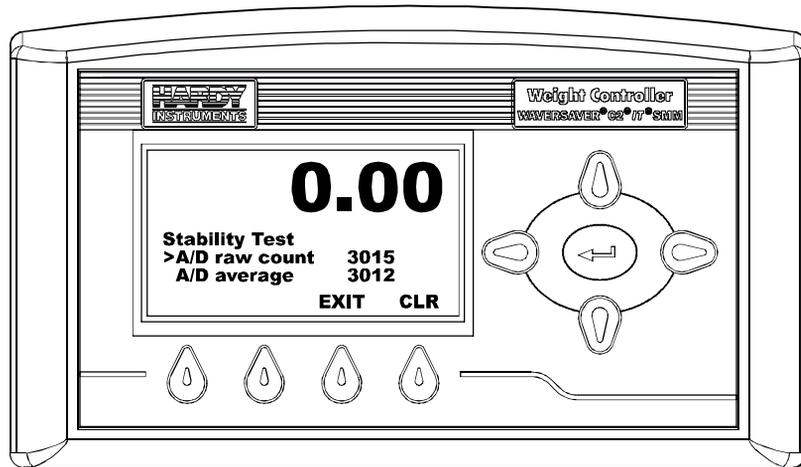

FIG. 396 STABILITY TEST/READING A/S RAW COUNT & AVERAGE
Step 12. To see the AD/Raw Count and the A/D Average press the down arrow button until the cursor is in front of A/D raw count. (See Fig. 396)